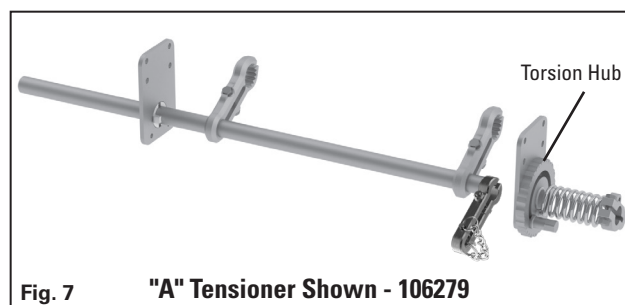

Fig. 7
15. Position shaft through side plate bushing and tensioner on opposite side (Fig. 7). Make sure the reaction arms are installed at least 25mm (1") away from the side plates.